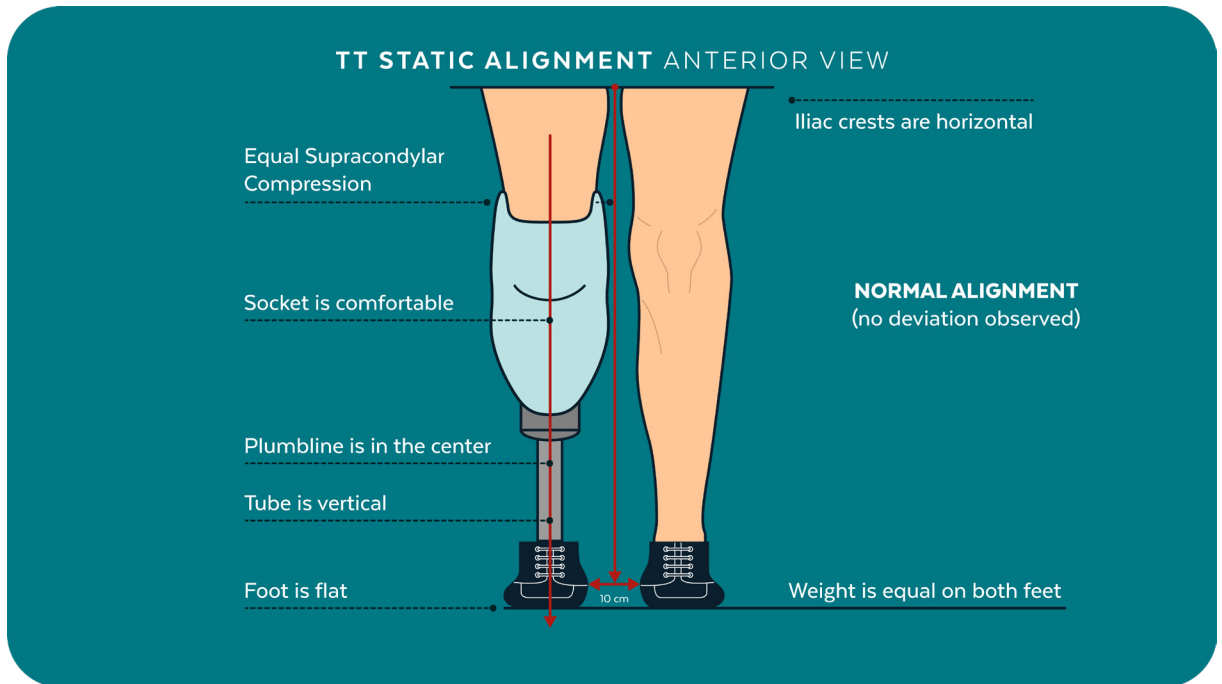

Figure 12: Transtibial socket alignment - anterior view.
5. Obtain neutral alignment as you normally would. (Figure 12)